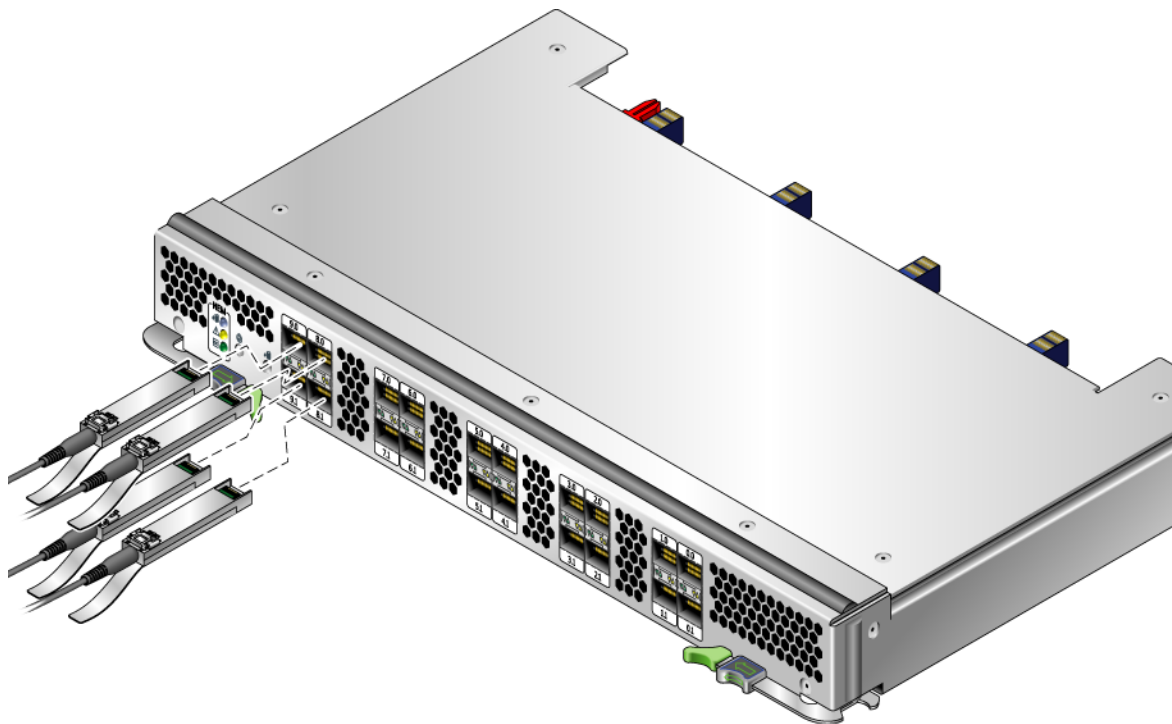

FIGURE 2-3 Connecting the Optical Cables
1. **Connect each fiber-optic cable to an LC connector on the NEM (see FIGURE 2-3).**